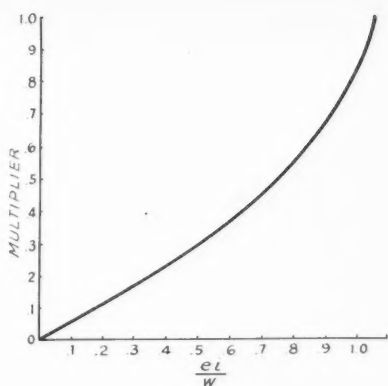

Fig. 2
watts by any misadjustment of the circuit, even including such mistakes as removing plate voltage entirely. (In this, and in all other formulas to follow, currents must be expressed in amperes, voltages in volts, and resistances in ohms.) From expression (1) it turns out that for most tubes, a may be chosen anywhere within a considerable range of values without the maximum possible screen dissipation exceeding the allowable value. One thing of interest is to find out how small a can be made without danger of exceeding the allowable screen dissipation, because the smaller a can be made the better the screen voltage regulation. This can be found as follows: Let W be the allowable watts screen dissipation while ei is of course the normal screen dissipation. (To play extra safe W can be taken somewhat smaller than the maximum rating if desired.) Then the smallest safe value for a is obtained by multiplying the quantity $E/2i$ by the multiplier given by Fig. 2. Once the value of a is decided upon, b may be obtained from the formula
That is all there is to it. To show how the calculation is made in a particular case, consider the 813 tube acting as a grid-modulated amplifier. From the tube instruction sheet we find $E = 2000$, $e = 400$, $i = 0.003$, and $W = 15$. Let us decide to play extra safe and take W as 10 watts. Then $ei/W = 0.12$ and from Fig. 2 the multiplier is
Having now obtained some values for a and b that will make the screen safe under any and all conditions, let us see what sort of voltage regulation there will be. Under normal conditions, of course, the screen voltage will be 400. Now suppose that screen current is stopped completely, as by lack of excitation in the presence of cut-off bias. Then the voltage will become 2000 multiplied by the ratio $b/(a + b)$, or 412 volts. This is not much of a rise. In fact, it is so little that we had better start all over again and assume a much smaller value of W so as to come out with much higher values of a and b and thus not waste so much power in them, a thing especially to be avoided in case the voltage applied to a and b is modulated. So let us jump to the extreme case of setting W equal to the normal screen input. Then the screen input is always lessened when the adjustments of the transmitter depart in any way from normal. Taking ei/W as unity, Fig. 2 gives a multiplier of unity and a is found to be a third of a megohm. As a result, b must be two-ninths of a megohm. These resistances are now so great that there is not much power wasted in them, but the regulation is not as good as before. In fact, the screen voltage will be found to rise to twice its normal voltage in the absence of screen current whenever we take W as equal to the normal screen input in calculating a and b .
Equate expression (1) to a desired maximum possible dissipation W and solve for a and we find $a = \frac{E}{2i} \left[1 - \sqrt{1 - \frac{ei}{W}} \right]$. The bracketed term of this is what has been plotted in Fig. 2.